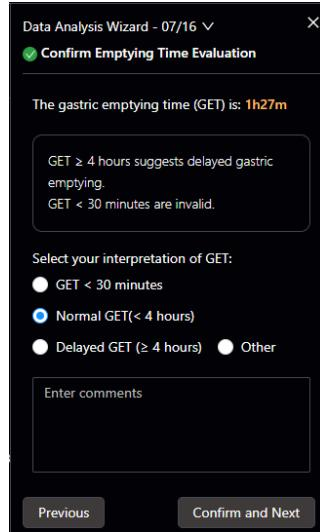

Figure 4-31 Data Analysis – Confirm Emptying Time Evaluation
8) Confirm Emptying Time Evaluation (Figure 4-31). Confirm the gastric transit time and select based on actual conditions. After selection, click [Confirm and Next] to proceed.